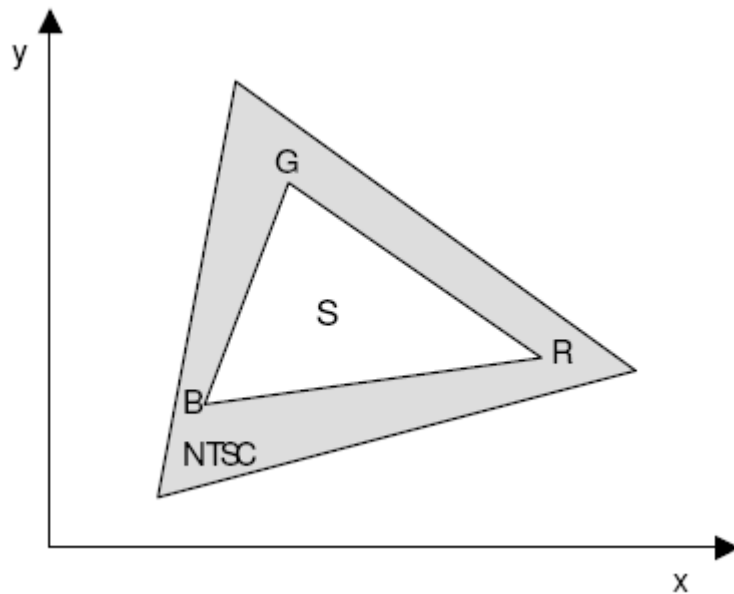

FIG. 4 The definition of Response Time
4. Viewing angle is the angle at which the contrast ratio is greater than 10. The angles are determined for the horizontal or x axis and the vertical or y axis with respect to the z axis which is normal to the LCD surface. For more information see FIG 4.